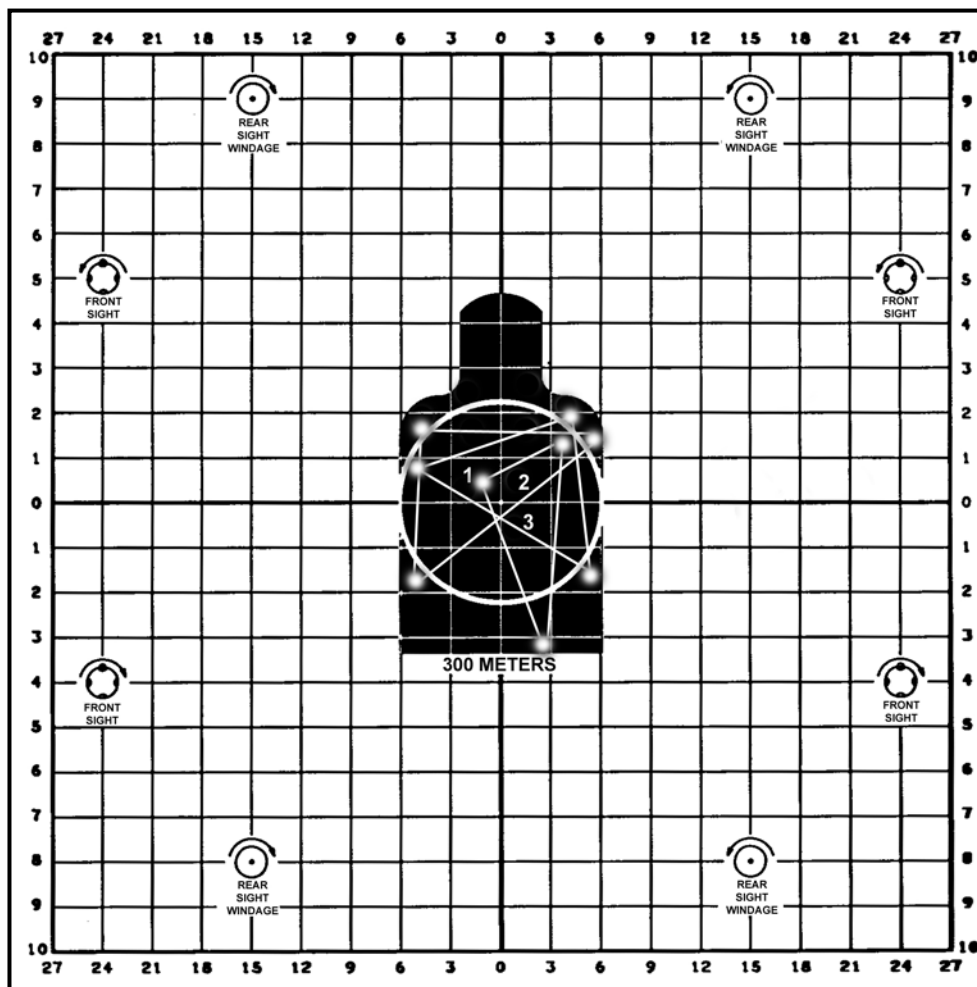

Figure 5-13. Shot groups with consistent aiming and major shooting error.
(3) *Shot Groups with Consistent Aiming and Major Shooting Error.* The groups in Figure 5-13 indicate consistent aiming, but the soldier is not applying the four fundamentals properly while firing each shot group. The firer should be assigned a coach to troubleshoot the soldier's four fundamentals in an attempt to isolate the soldier's firing errors.